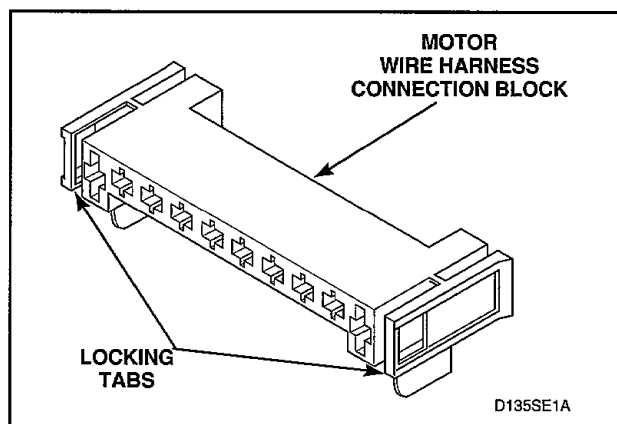

Figure 37
- g. Disengage motor wire harness connection block from motor switch by pressing in on the movable locking tabs (located on each end of the connection block) and pulling away from motor, *Figure 37*.
- (1) Disengage motor wire harness connection block from the motor by pressing in on the movable locking tabs (located on each side of the connection block) and pulling away from motor, *Figure 37*.